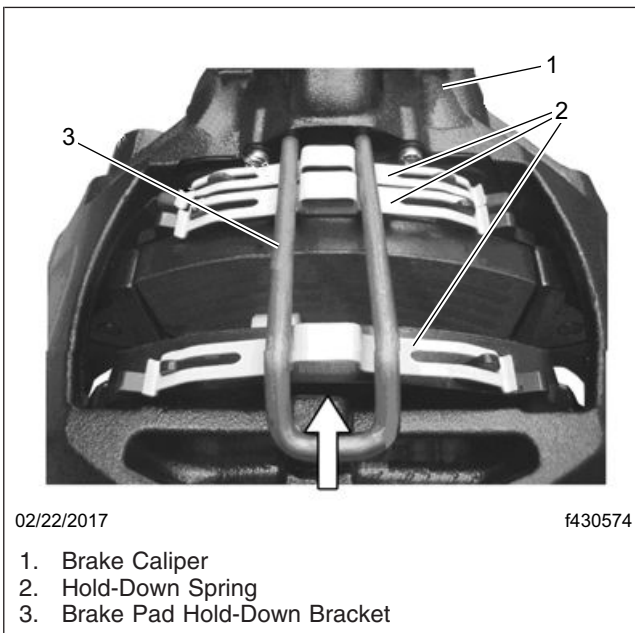

Fig. 6, Installing Hold-Down Springs and Bracket
16. Provided it is good condition, use the brake pad hardware removed earlier. Install the brake pad hold-down bracket into the openings of the brake caliper, and press the brake pad hold-down bracket so that the hold-down springs fit into the bracket. fasten the socket head screw on the brake caliper. See Fig. 6.